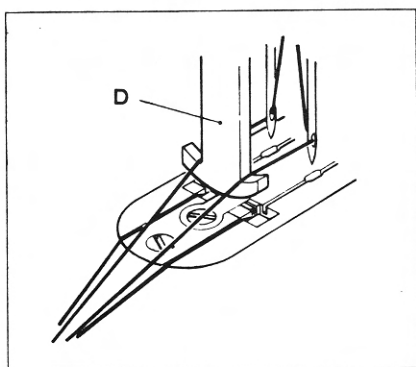

Figure 5
5. Holding Upper and Lower Threads (Figures 5 and 6)